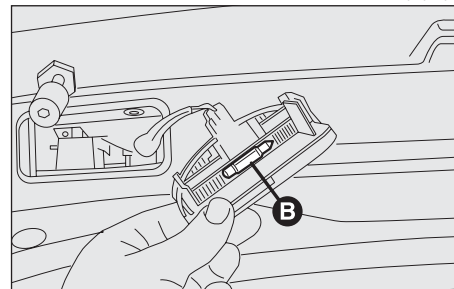

fig. 58
- Remove the bulb (**B-fig. 58**) pulling outwards and releasing it from the side contacts.